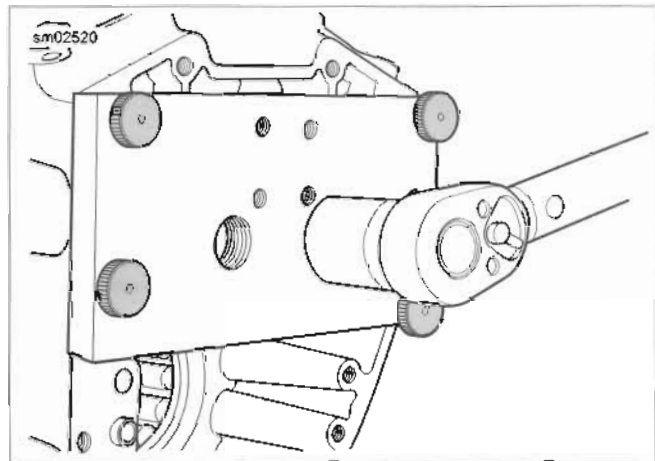

Figure 3-106. Bearing Installation
- a. See Figure 3-106. Turn forcing screw clockwise to press needle bearing into bore.